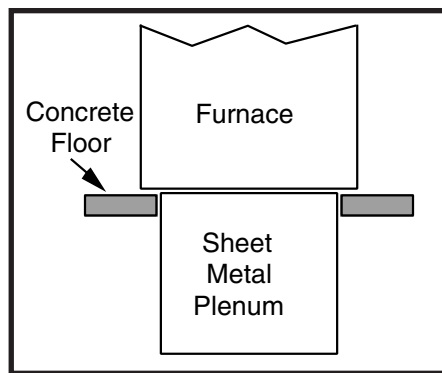

Figure 10. Furnace on a Concrete Slab
2. Position the plenum and the furnace as shown in Figure 10 (page 11).